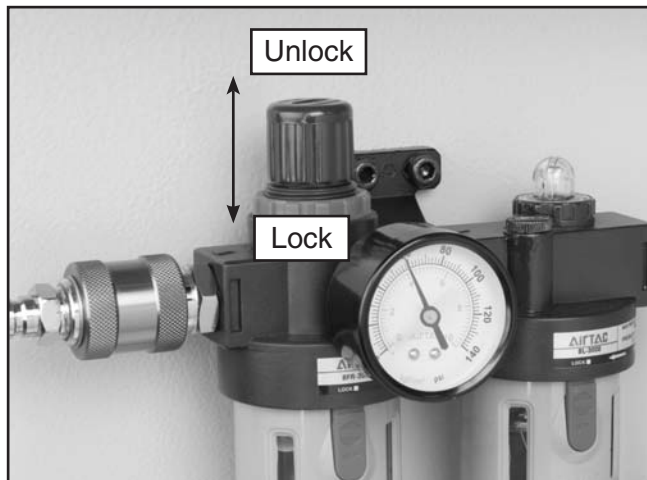

Figure 17. Air pressure regulated to 60 PSI at the gauge.
5. Pull the pressure control knob up to unlock it, turn the knob to regulate the air pressure to 60 PSI (**Figure 17**), and push the pressure control knob down to lock it again.